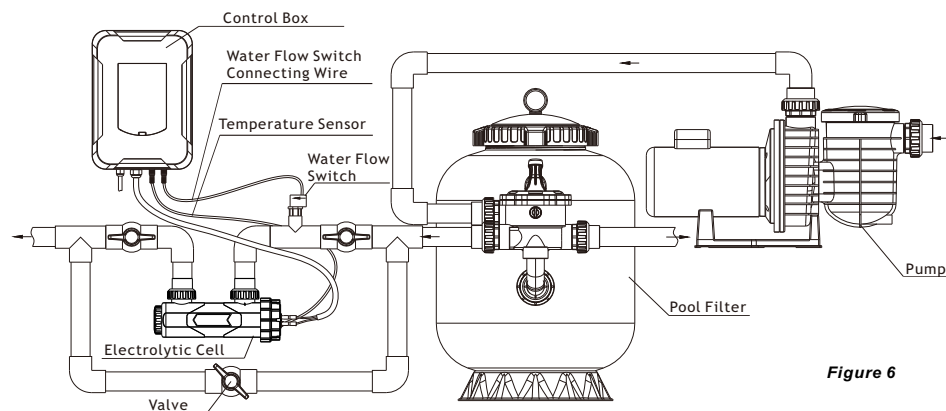

Figure 6
4. Connect the power output cable (2X6 mm2) of the control box to the electrolytic cell, connect brown wire to the positive pole, connect the blue wire to the negative pole, connect the water flow switch and the temperature sensor to the control box by the supplied wire and connector. (see figure 6)